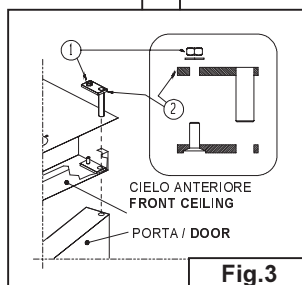

Fig.3
- Per estrarre la porta (**Fig.3**), togliere il dado **Pos.1**, e la piastra **Pos.2**.
-To remove the door from its housing (**Fig.3**), unscrew the bolt **Pos. 1** and remove the plate **Pos. 2**.